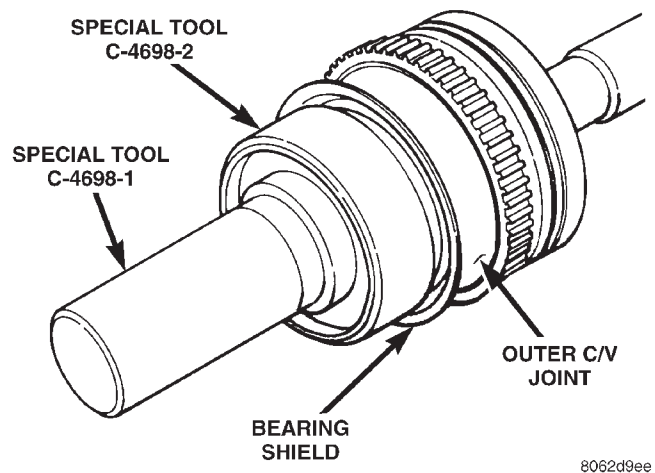

Fig. 43 Special Tools for Installing Bearing Shield
- (1) Install bearing shield by hand on outer C/V Joint so that it is installed squarely on the C/V joint.
- (2) Position installer, Special Tool, C-4698-2 and handle, Special Tool, C-4698-1 on face of bearing shield (Fig. 43).